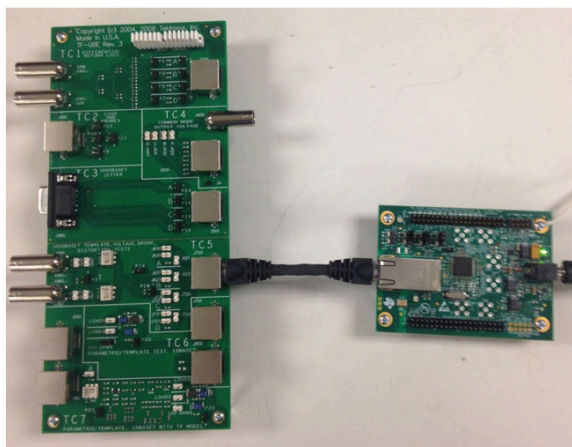

Figure 2-1. DP83867 EVM Connected to Testing Fixture Through CAT5 Cable
2. Connect the EVM to the test fixture according to setup outlined in the test fixture or software manual (see Figure 2-1). Identify if a link partner (packet generator) is needed for the test, and connect accordingly.